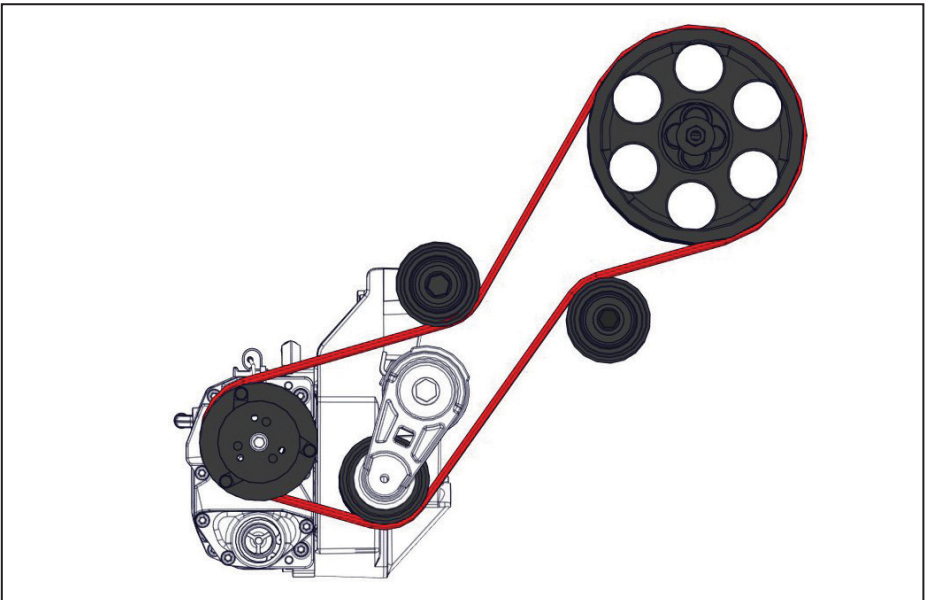

Figure 16 — VMAC belt routing
- Install and tension the VMAC belt (Figure 16).